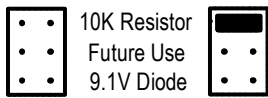

Fig. 3
Step 5 The termination header has a jumper that can be pulled straight up and re-inserted into the proper position. Set the termination selection jumper to either 10K resistive or 9.1V Diode. See Fig.3.